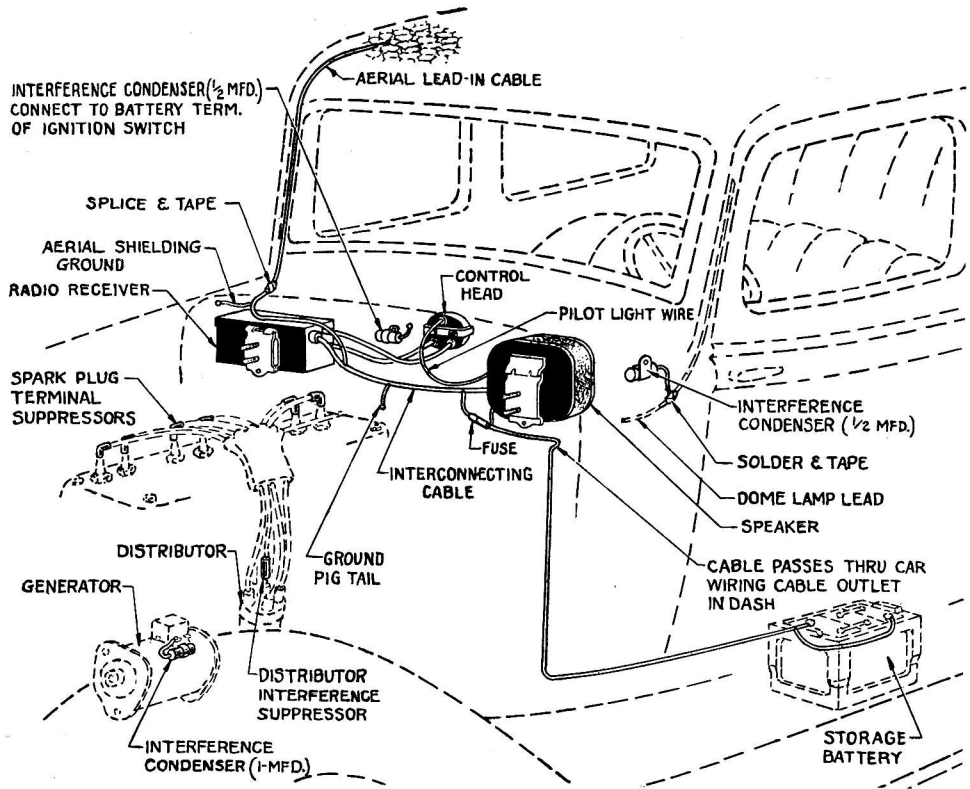

FIGURE 4
Remove the car wiring cable outlet grommet cap on the left-hand side of the dash, so that the battery cable can be installed. Push the metal fuse housing end of the cable through the grommet from the engine side, leaving just enough slack so that the cable can be connected and fastened in place as shown in Figure 4. Route the cable through the clip that holds the car wiring harness and along under the floor boards to the battery. Replace the grommet and cap, but do not connect the cable terminal to the battery terminal at this time.
lead-in. The shielding must be grounded to the cowl panel by drilling a $\frac{1}{8}$ " hole where the hood overlaps and as close to the A pillar as possible, using the 8-32 bolt and nut supplied for this purpose. (See Figures 4 and 5.) Remove paint from around hole.
Place the fuse and fuse insulator in the metal fuse housing of the battery cable and connect it to the small fuse connector which branches out of the interconnecting cable close to the Speaker. The two (2) shield terminals at the fuse housing must be connected under the same terminal screw that is used to ground the speaker cable shield at the speaker. Figure 4 shows the general layout of the cables and connections.
(see Figure 4). Install a 1/2 microfarad by-pass condenser, splicing and soldering it to the dome light lead as close as possible to the point where it enters the windshield pillar. The condenser must be fastened to the cowl panel in front of the hood line by drilling a 3/8" hole where the hood overlaps and as close to the pillar as possible, using the 8-32 bolt and nut supplied for this purpose. (See Figures 4 and 5.) Remove paint from around hole. Replace the car lighting fuse—test the lights and horn.